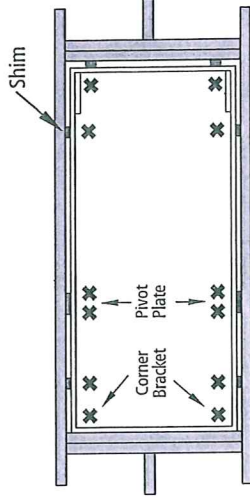

FIGURE 5
- A. Install fasteners at the 12 locations shown in figure 5 for permanent installation. Either 1/4" x 3" lag screws or 16d nails should be used. Install shims when necessary to fill any gaps between the door frame and rough opening. Make sure to install the fasteners in the holes provided in the corner brackets and pivot plates.